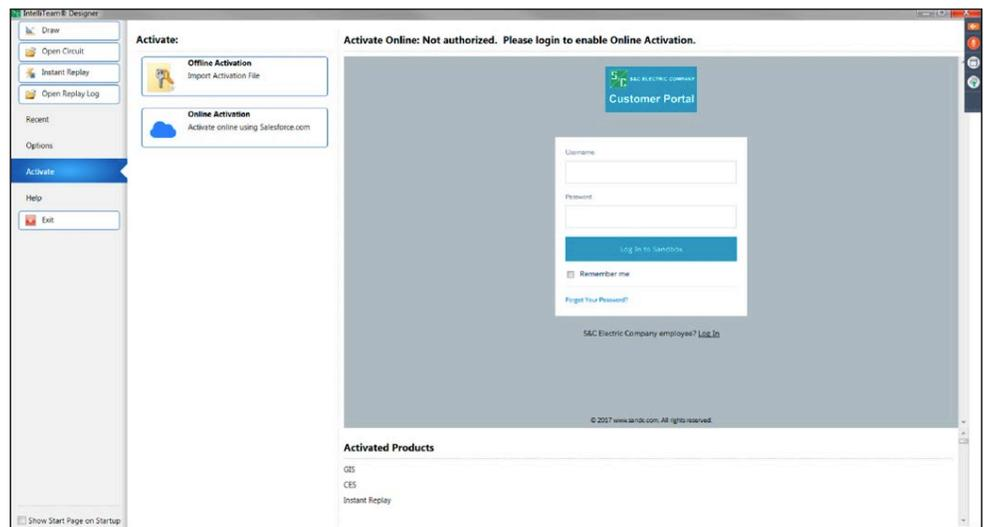

Figure 8. IntelliTeam Designer Start Page, Online Activation Login screen.
**STEP 2.** On the right side of the screen, click on the **Online Activation** button to load the online activation customer portal *Login* screen. See Figure 8.